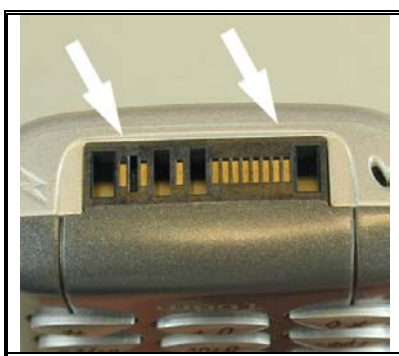

Fig 8.1
- If the customer complains about data communication problem with the Digital camera, MP3 player or AM/FM receiver, check that the system connector (*Fig. 8.1*) not is incorrectly soldered, mechanically damaged, dirty or oxidised.